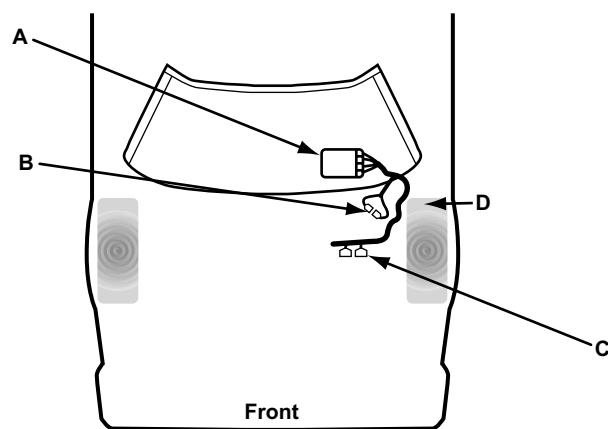

Figure 15-40 1987–94 SPI connectors
- “1987–94 SPI connectors” on page 196 (Figure 15-40)